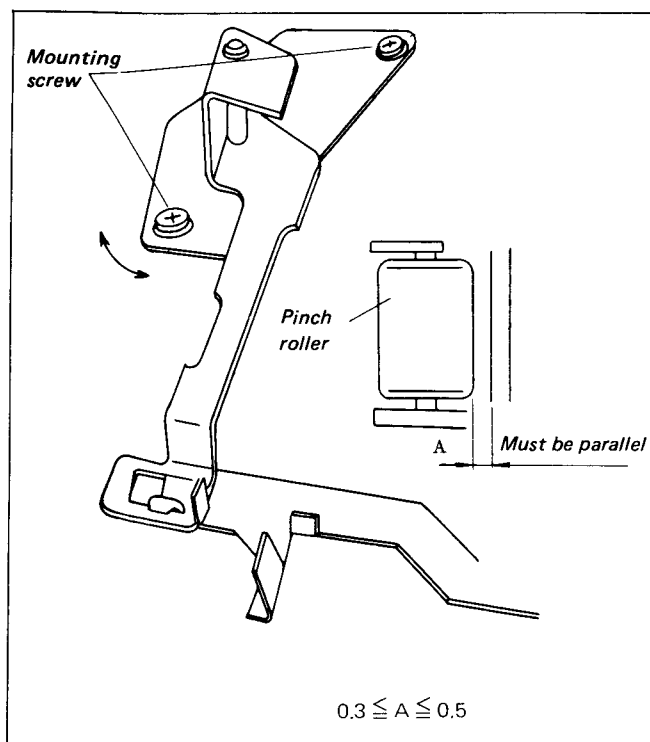

Fig. 3-13.
- (1) Loosen the mounting screw shown in Fig. 3-13 in the FWD mode and move the pinch solenoid base to the left and right, to satisfy the standard value A, after which screw lock should be made.
- (2) Adjust the paralleling screw so that the pinch roller and the capstan shaft are visually held parallel in the FF/REW mode and then make screwlock.